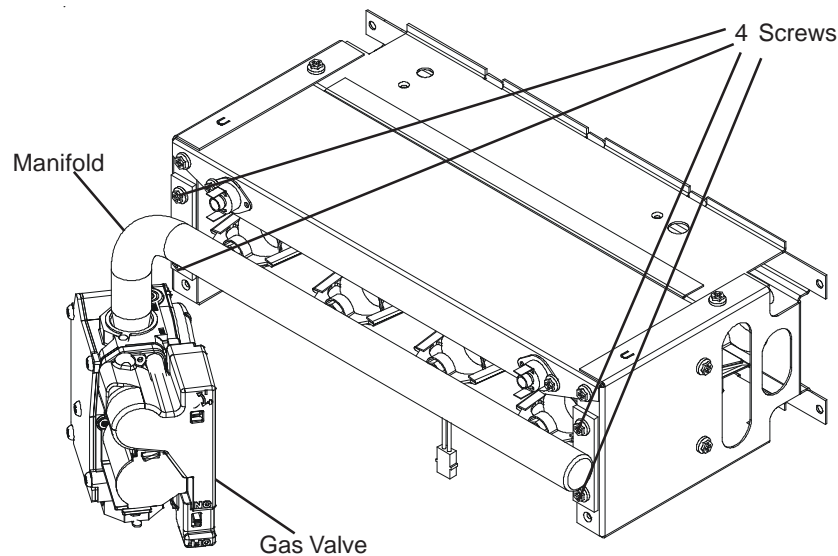

Figure 2 - Gas Manifold Removal
4. Remove the gas manifold assembly by removing the four screws connecting it to the burner bracket. See Figure 2 below.